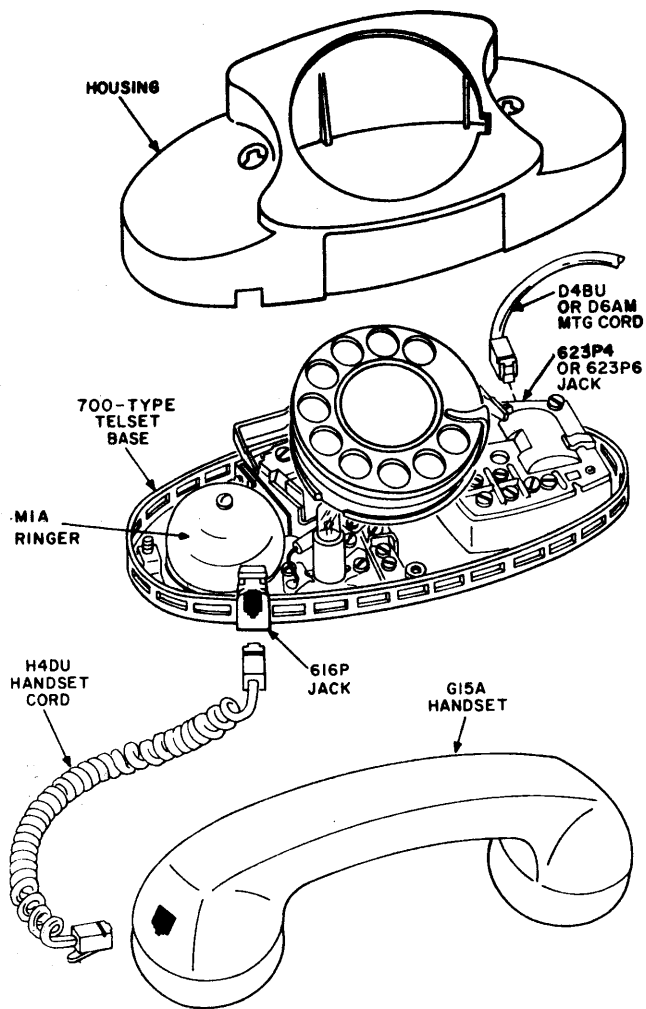

Fig. 4—702BM Telephone Set Equipped With a M1A Ringer
2.05 The 702BM telephone set (Fig. 4 or 5) is a modular PRINCESS telephone set. It has the same feature as the 702B (MD) set plus modular features.